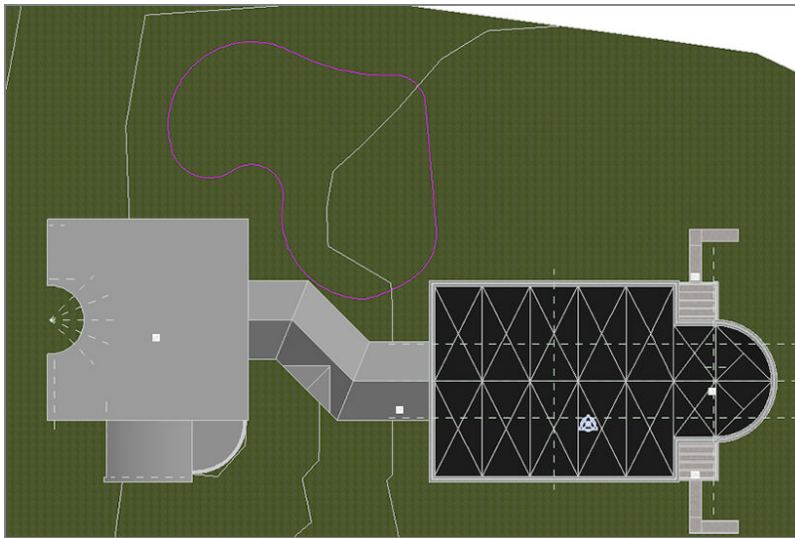

FIGURE 18.7: The split surface sketch
4. Zoom in on the corridor area that links the east and west wings, as shown in Figure 18.7.
6. Sketch a perimeter similar to the one in Figure 18.7.